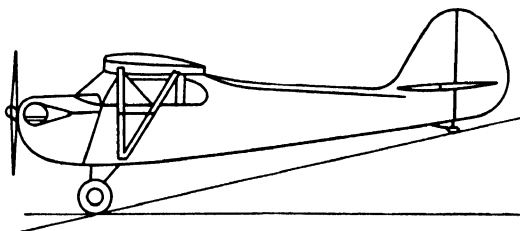

Fig. 184.
4. Draw up the Clark Y airfoil section from the data in Fig. 184.